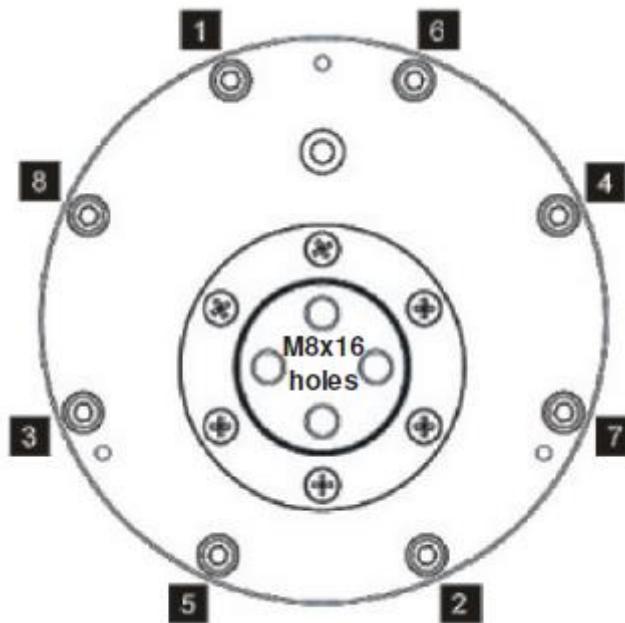

Fig. 11 Screw tightening sequence
6. Refit the eight M6 x 25 mm cap head A4-80 screws and the paint cutting washers and tighten evenly to a torque rating of 4.5 Nm, in the order as shown in Fig. 11.